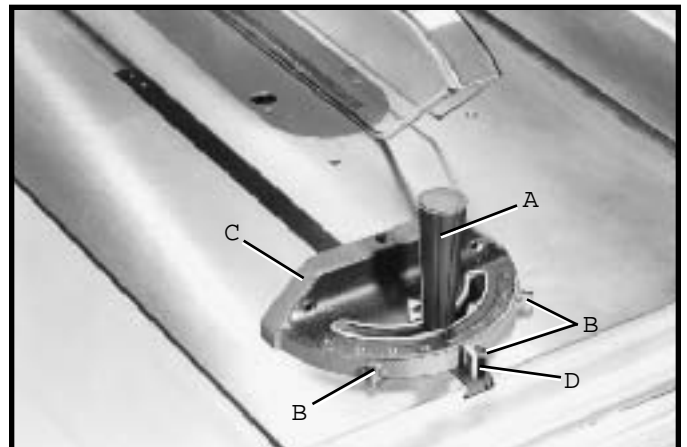

Fig. 85
2. The miter gage is equipped with adjustable index stops at 90 degrees and 45 degrees right and left. Adjustment to the index stops can be made by tightening or loosening the three adjusting screws (B) Fig. 85.
3. To rotate the miter gage, loosen lock knob (A) Fig. 85, and move the body of the miter gage (C) to the desired angle.
4. The miter gage body will stop at 90 degrees and 45 degrees both right and left. To rotate the miter gage body past these points, the stop link (D) Fig. 85, must be moved up and out of the way.